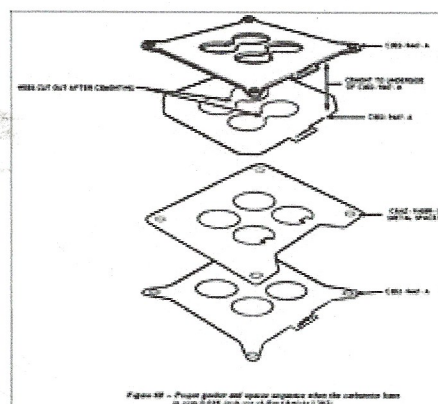

Fig. 8B
- Reinstall the carburetor using this cemented gasket combination. Install this gasket as shown in Fig. 8B. Torque the carburetor attaching bolts alternately to 6-8 ft.-lbs. and then alternately increase this torque to a final 12—15 ft.-lbs. specification.